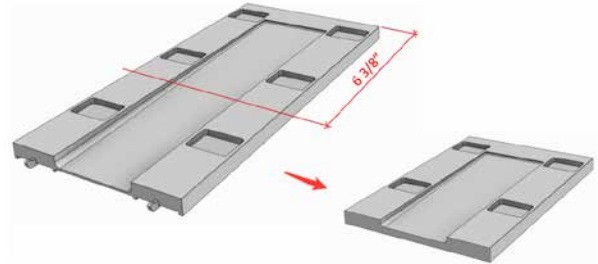

Fig S1
- The base shim size fits a 3-track door without modification, if your door has 2 tracks you will need to cut down the shims as shown in Fig. S1.